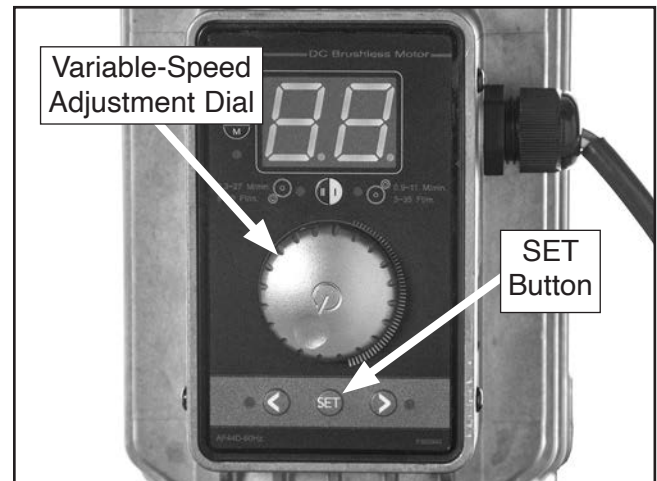

Figure 24. Location of SET button and variable-speed adjustment dial on control panel.
1. Press SET button on control panel, as shown in **Figure 24**.